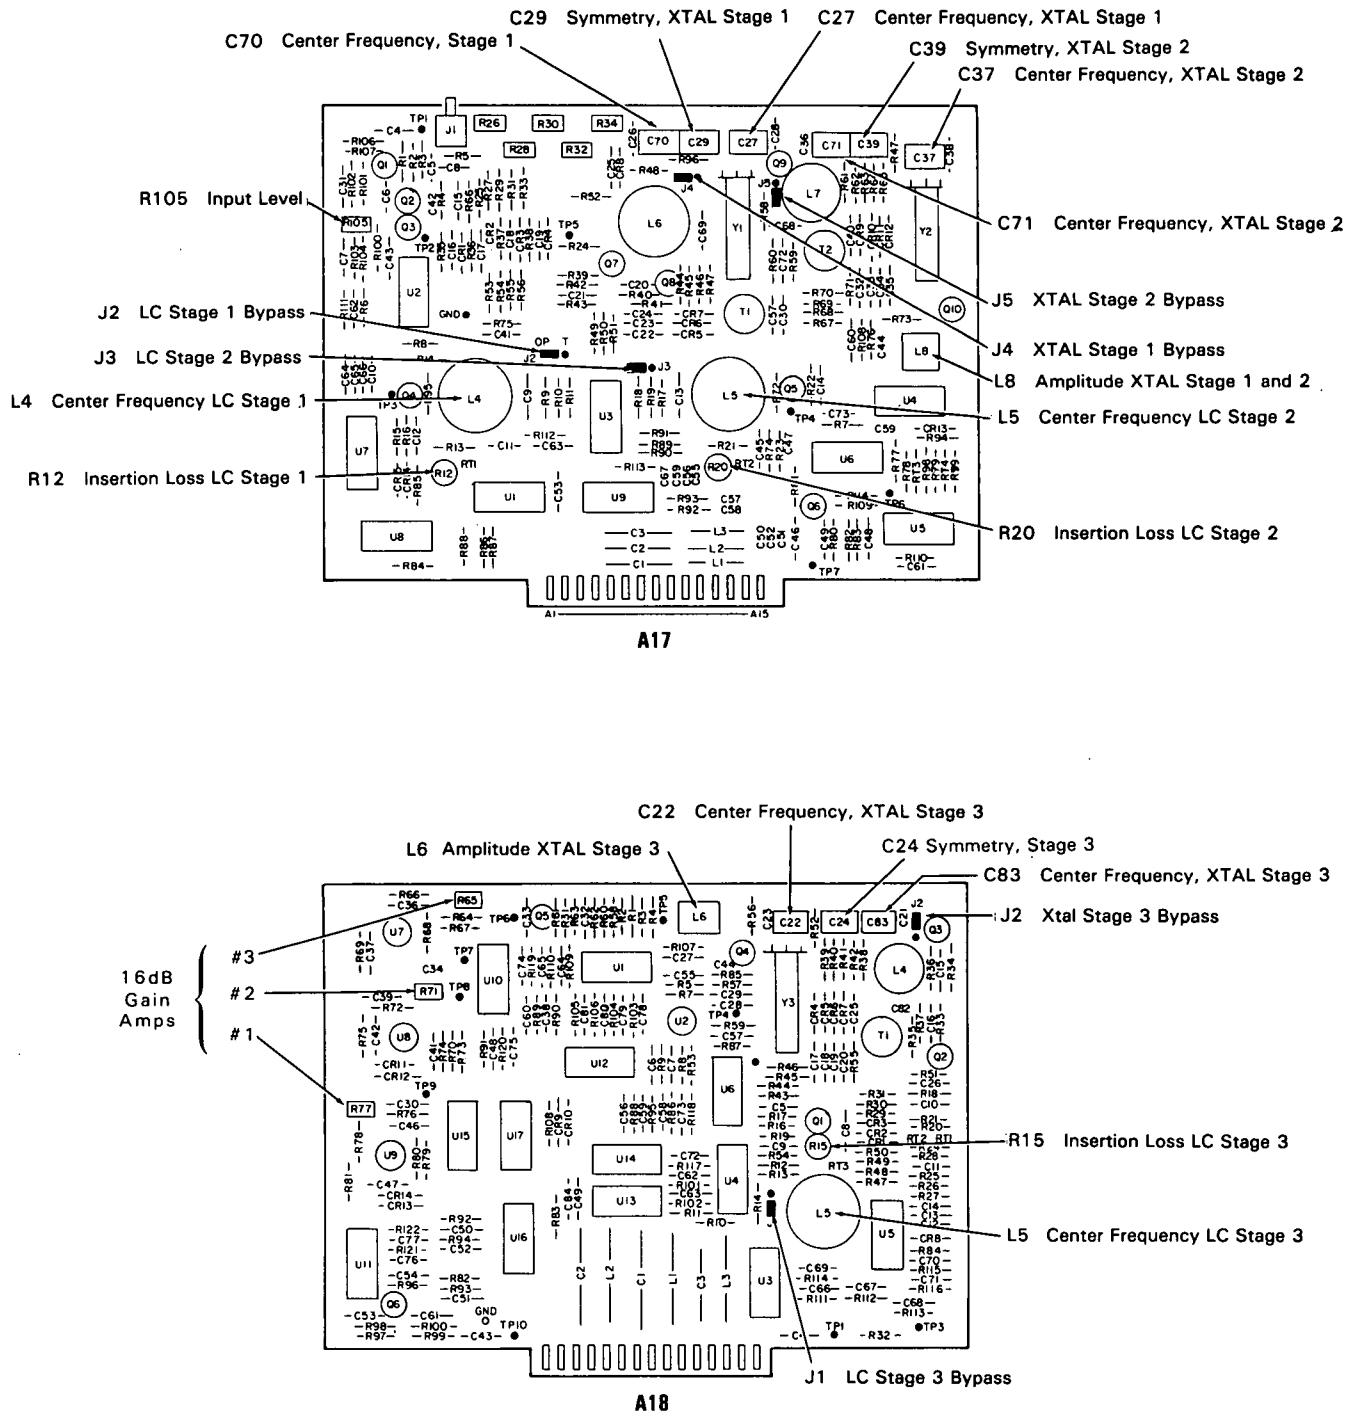

Figure 5-34. IF Boards(A17-A18).
- e. Place the stack of books in the position shown in Figure 5-34. Be careful not to touch the high voltage section.